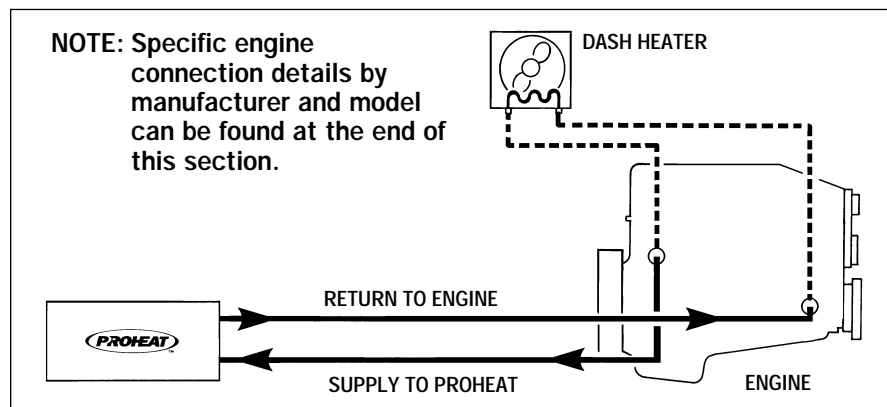
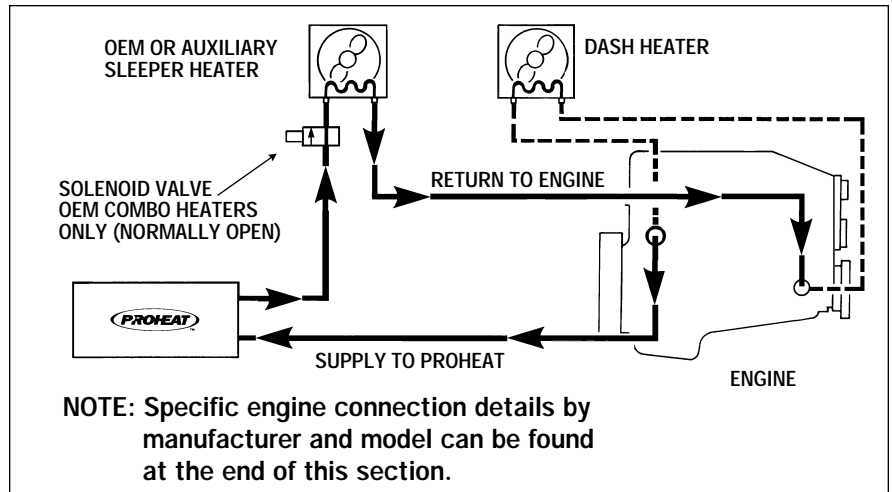

Figure 3-12 Engine Heat or Supplemental Heat
Figure 3-14 Engine and Sleeper Heat
3. Plumb the system as per *Figure 3-12* (engine or supplemental heat) or *Figure 3-14* (engine or sleeper heat)